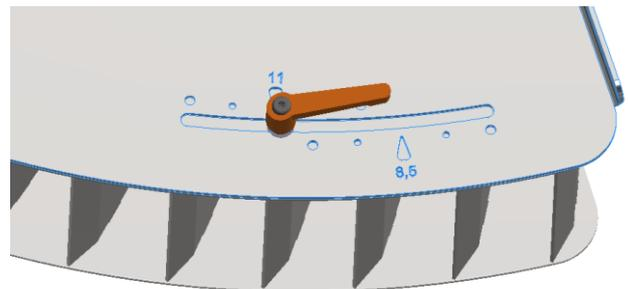

Figure 6.16 - Side border limiter
- Undo the handles - B - and slide the vane block until the right-hand handle is aligned with position 11 (Figure 6.16),